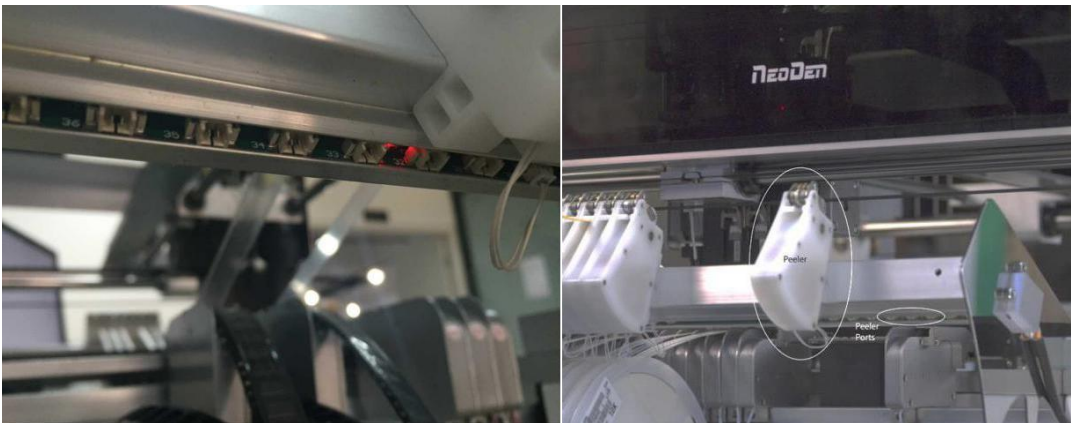

Figure 4.24
(1) Feeders and peelers are easy to install, but working in the area of the feeder reels becomes difficult when components are installed in adjacent feeders. Machines purchased from NeoDen come equipped with all feeders in the owner’s order pre-installed. But if additional feeders are selected before setup we strongly recommend installing them according to the procedures below before attempting any configuration. The process of installing new feeders is easier when there are no reels loaded nearby.
(2) The feeders are installed on the lower rails, and the peelers are installed on the upper rails. Each is attached with a single Allen screw, and connected with a single cable. The feeders are connected with 4-pin cables, and are addressed digitally over a data bus. It therefore does not matter which feeder is plugged into which port – the feeder ID code determines which feeder will be activated. On the other hand, peelers are addressed with analog power signals. Therefore, activation of a peeler depends entirely on the two-pin port to which it is connected. The software interface allows the user to assign different combinations of peeler and feeder IDs when it is desired to use a feeder with a certain ID in a position that corresponds to a different peeler ID. See the Figure 4.24